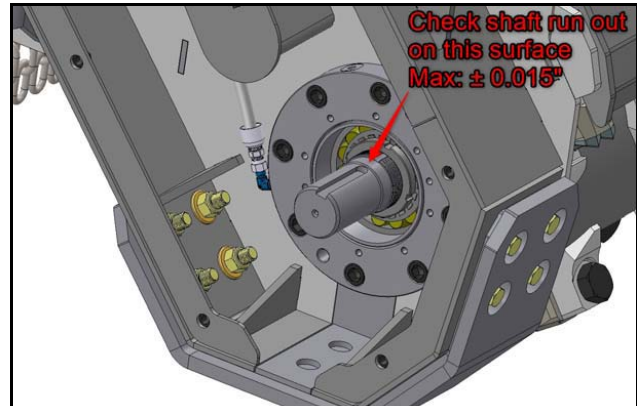

Figure 26
1. Inspect stub shaft pilot and cutting drum pilot hole; sand the surfaces smooth if necessary [Figure 26].